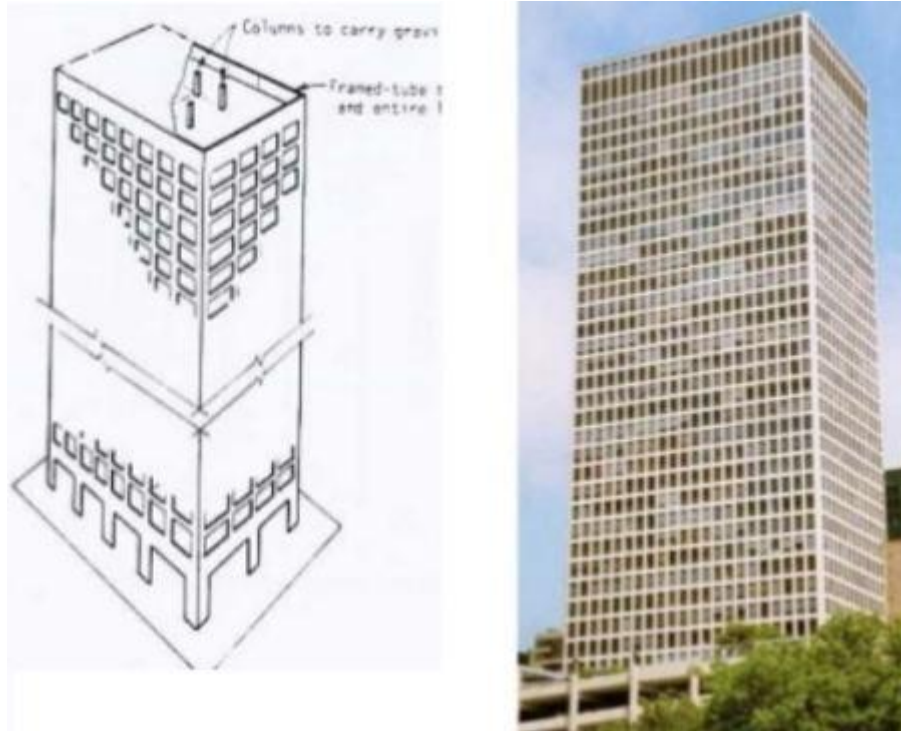
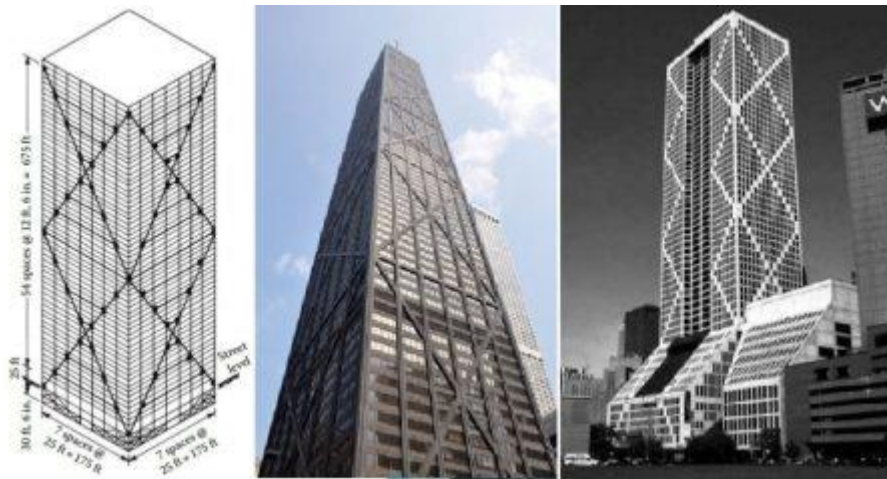
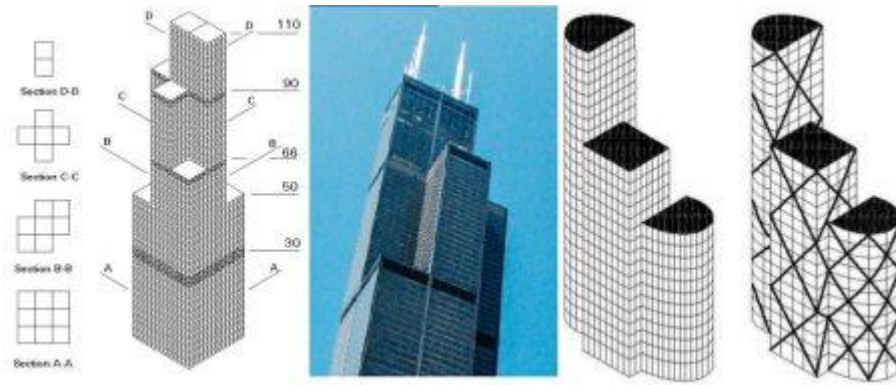
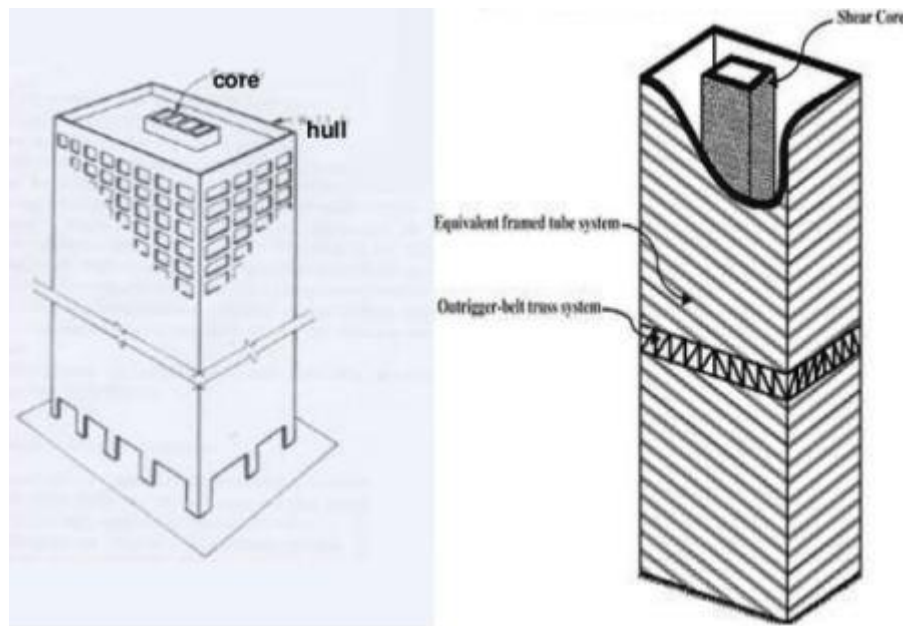

Fig.9: Framed tube structure system
Fig.10: Trussed tube system
Fig.11: Bundled tube structure system
Fig.12: Tube in a tube system
- Types of tube structure system include framed tube system (fig.9), trussed tube system (fig.10), bundled tube system (fig.11), and tube in tube system (fig.12).